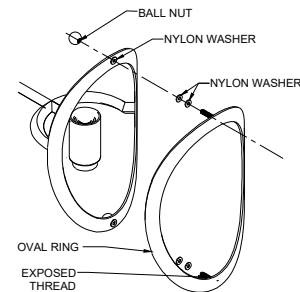

FIGURE-01
2. Remove the oval ring, nylon washer and ball nuts by unthreading the ball nuts from the fixture. (SEE FIGURE-01)